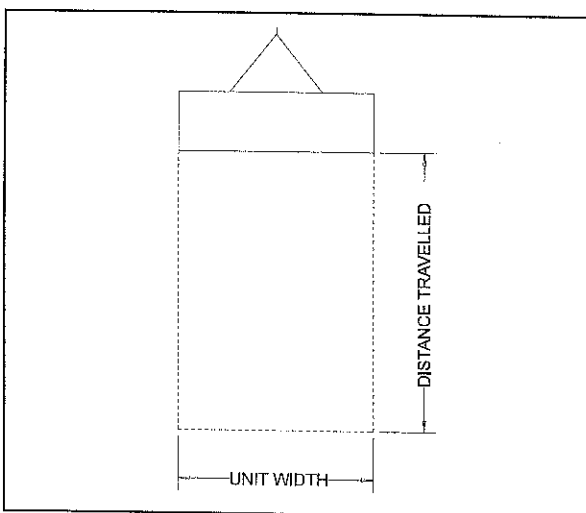

Figure 1.9 - Actual Area Calculation
1. Refer to *Figure 1.9*. Set a distance for the seeding unit to travel. By knowing how far the seeding implement has travelled, the exact area can be determined.